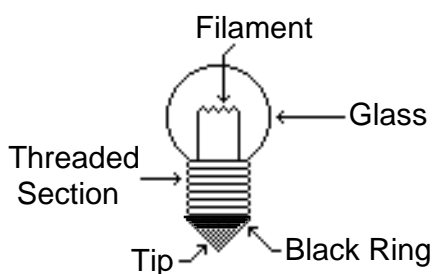

Figure 1.9b
2. Study the bulb diagram in Figure 1.9b, and predict whether each of the accessible parts is a conductor or an insulator. Write your predictions in Table 1.9.